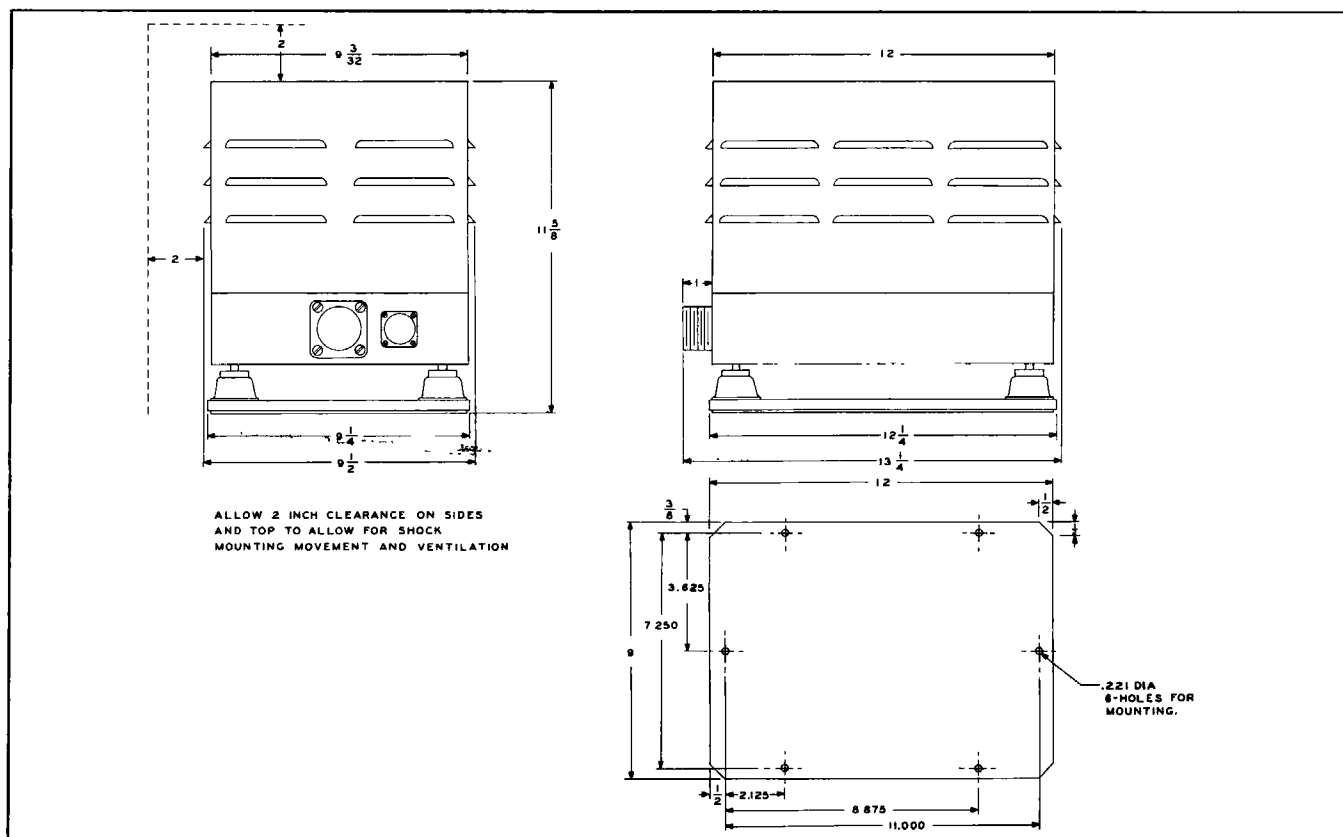

Figure 2-12. Power Unit PP-111/APS-10—Outline Dimensions
(6) **RECTIFIER POWER UNIT PP-111/APS-10.** This unit (figure 2-12) may be installed in any loca-
tion where space conditions permit, since it has no controls or adjustments. (See figures 2-12, 5-7). It is recommended, however, that it be located in proximity to the rest of the equipment so that an excessive voltage drop will not develop from an unnecessarily long cable. Bolt Mounting MT-295/APS-10 to a solid structure in the plane by means of six $10/32 \times 3/4$ -inch round head machine screws. Place the rectifier on the mounting so that the four mounting pins engage the corresponding snap slide fasteners on the unit. Close the fasteners.